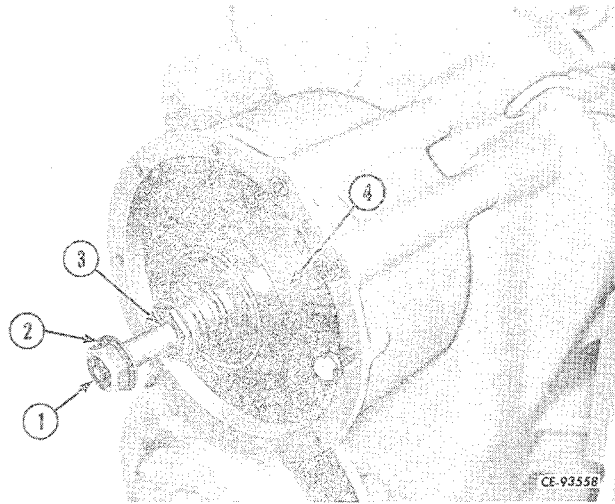

Figure 4-94
Install the cap screw (1, Fig. 4-94) and washer (2) that secure the clutch pack (4) to the counter-shaft. Torque the cap screw (refer to "SPECIAL TORQUES").